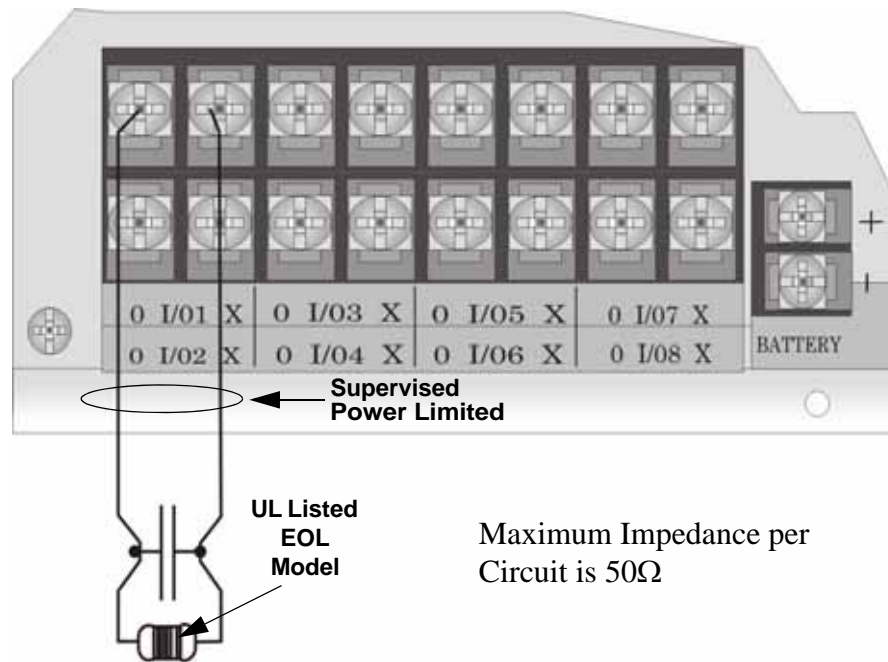

Figure 4-33 Class B Input Switches
1. Wire the Class B switch as shown in Figure 4-33.